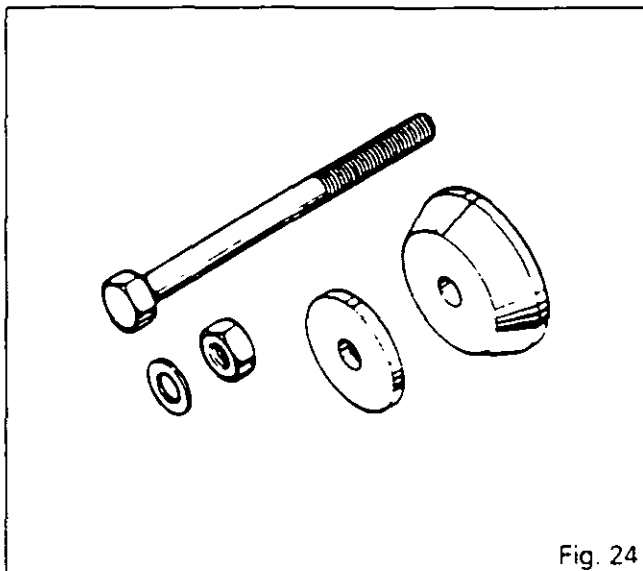

Fig. 24
- MF471 Spring compression tool (Fig. 24)